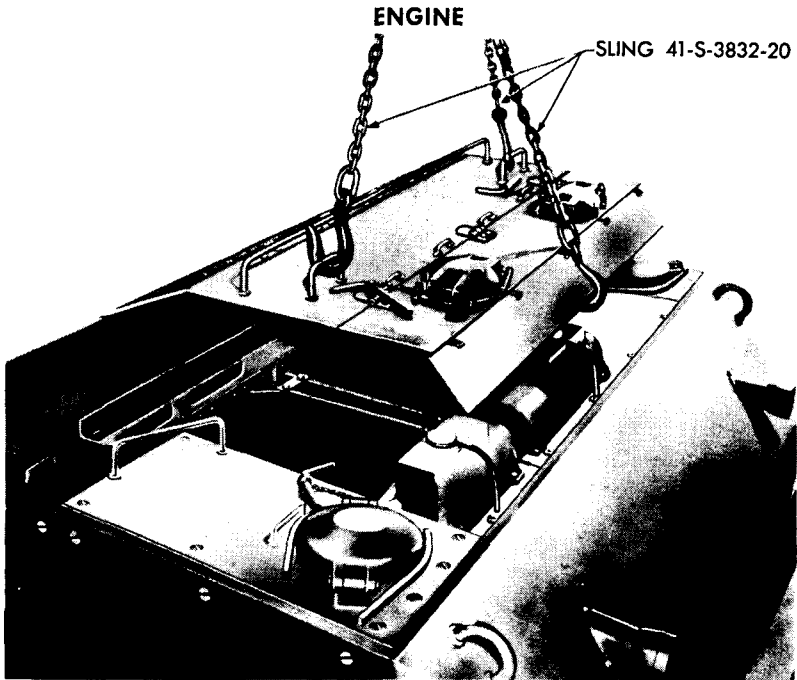

Figure 26 – Removing Engine Compartment Cover
(6) **REMOVE ENGINE COMPARTMENT COVER.** Index turret 90 degrees from straight-ahead position. Remove five screws holding grille to engine compartment cover, and remove grille. Take out nine cover mounting screws. Attach sling (41-S-3832-70) (fig. 26) and lift engine compartment cover.